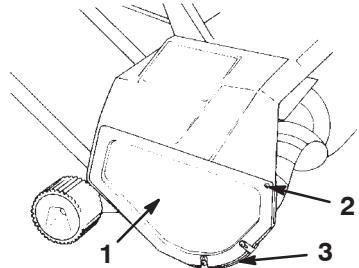

Figure 13
1. Remove the 3 screws that secure the right side cover and the skid to the snowblower frame (Fig. 13).